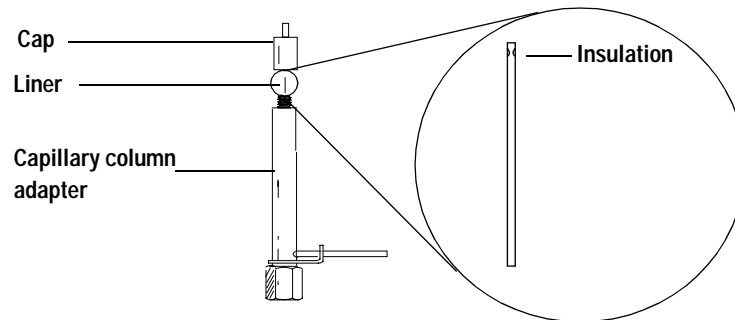

Figure 4 The μ ECD adapter
- 2 Check the liner. Replace it if it is broken and reinstall the cap. The indentation must be at the cap end of the adapter (See Figure 4).